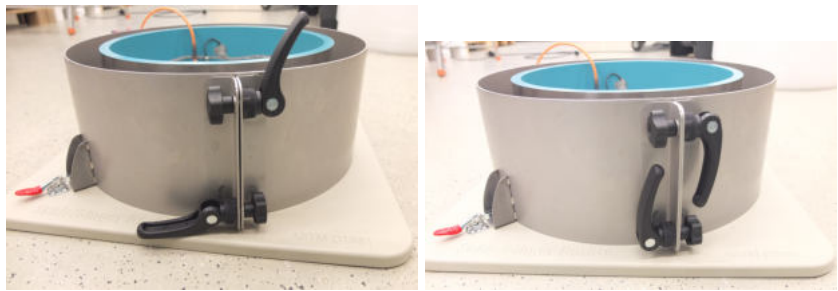

Figure 4: Opening and closing the outer ring with the eccentric clamps.
- Place the outer ring on the base plate, close the eccentric clamps on the outside of the outer ring and center it with the two outer toggle clamps from the base (figures 4), 5).